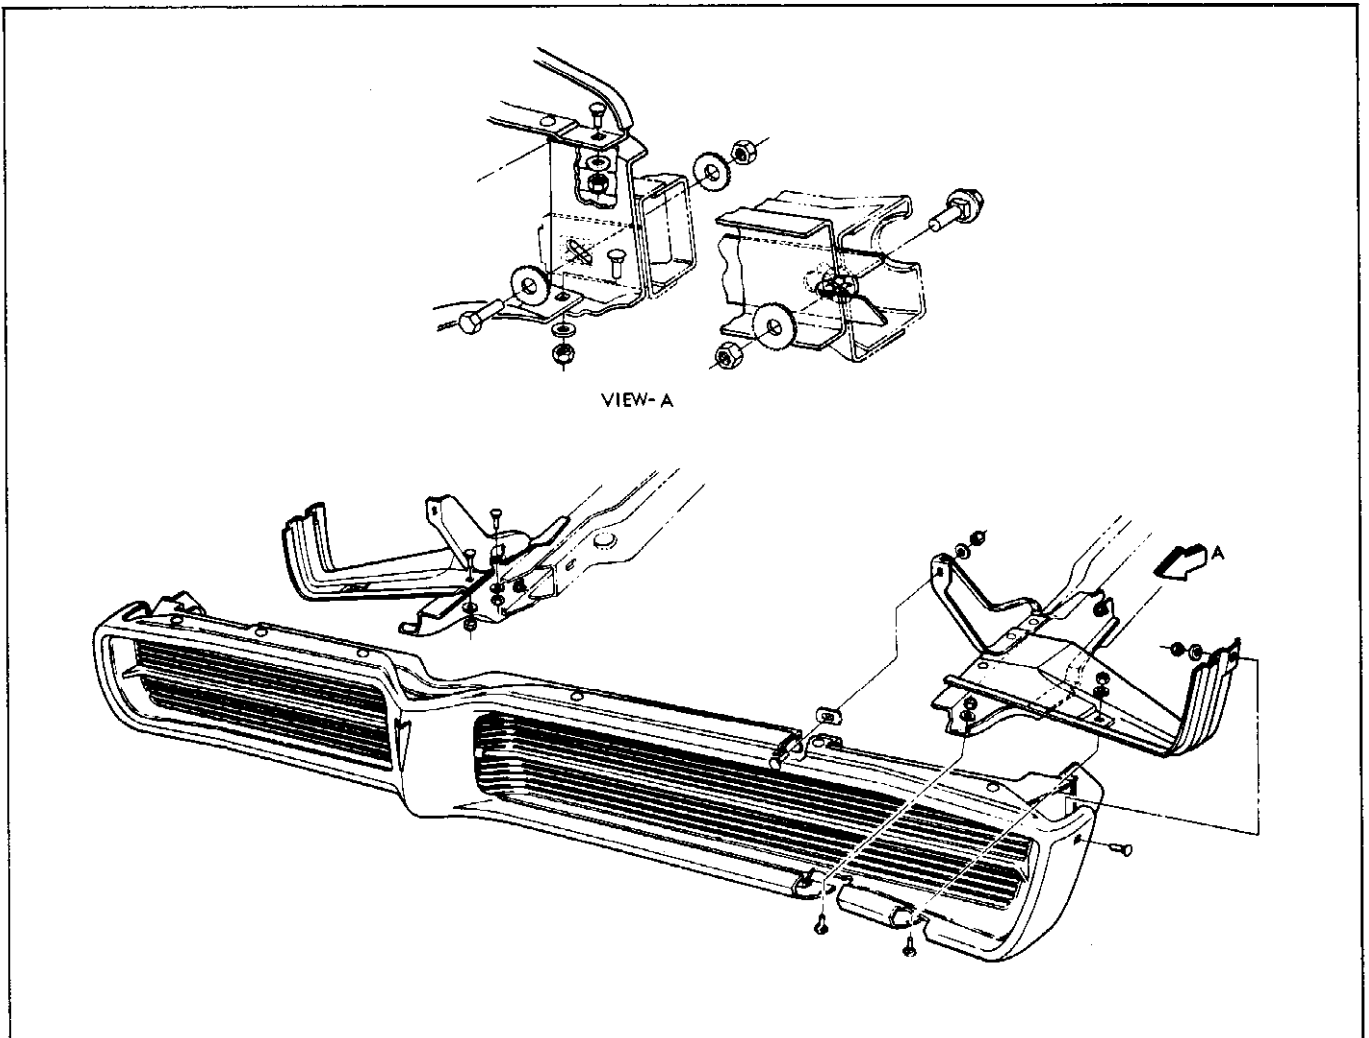

Fig. 14-1 Front Bumper Assembly (Pontiac exc. GP)
A. REMOVAL PONTIAC (Fig. 14-1)